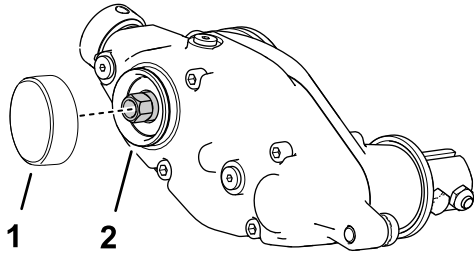

Figure 14
- Apply medium-strength cylindrical bonding retaining compound (such as Green Loctite 609®) around the snap ring groove and the outer diameter surface (Figure 14).
2. Install the cap as shown in Figure 14.